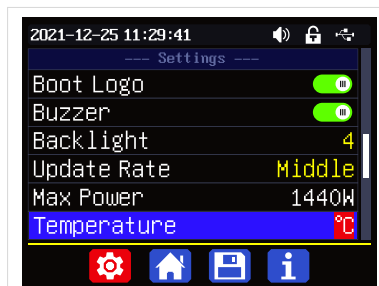

figure 6
**Temperature** unit is °C by default, it can be switched between °C and °F (figure 6);